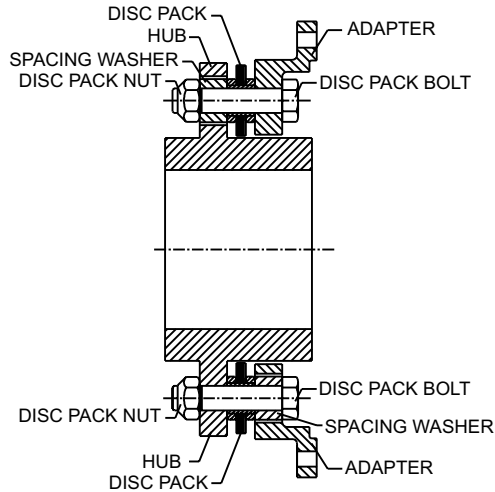

Figure 4. Bolt Adapter and Disc Pack to Hub
3.1 Place the disc pack and adapter in position over the hub body diameter as shown in Figure 4. The reamed holes in the adapter should be aligned with the large clearance holes in the hub as in the upper portion of Figure 4. The large clearance holes in the adapter should be aligned with the reamed holes in the hub as in the lower portion of Figure 4.
3.2 Insert disc pack bolts through the reamed bolt holes in the adapter, through the disc pack holes and through the clearance holes in the hub. Install a spacing washer and nut over each disc pack bolt (See Figure 4., upper half). Place spacing washers on the remaining disc pack bolts and insert them from the adapter side through the adapter clearance holes, through the disc pack holes and through the reamed bolt holes in the hub (See Figure 4., lower half).